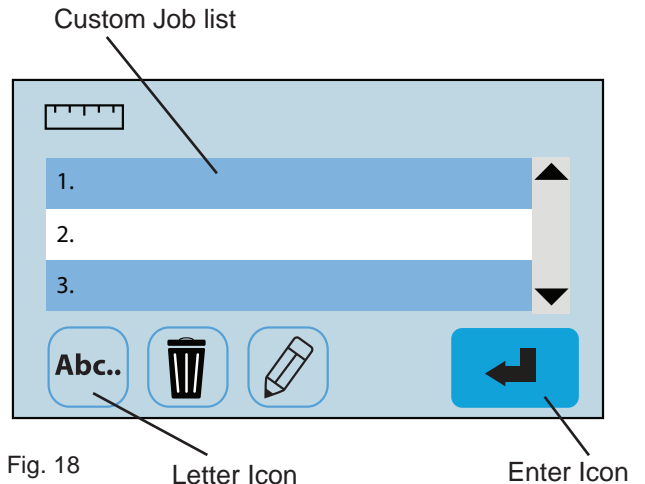

Fig. 18
- Select the job number the fold will be saved as (Fig. 18). Press the letter icon  to bring up the keypad to name the custom fold.